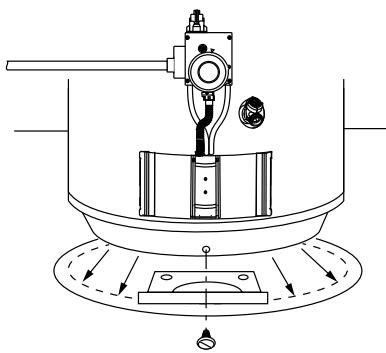

Figure 20: Setting the Water Heater in place.
- 6** Set the water heater in place against the lip of the duct assembly as shown in Figure 20.
- Vertical and horizontal runs must be securely supported at 3-1/2 foot (1.07 m) intervals. See Figure 20.